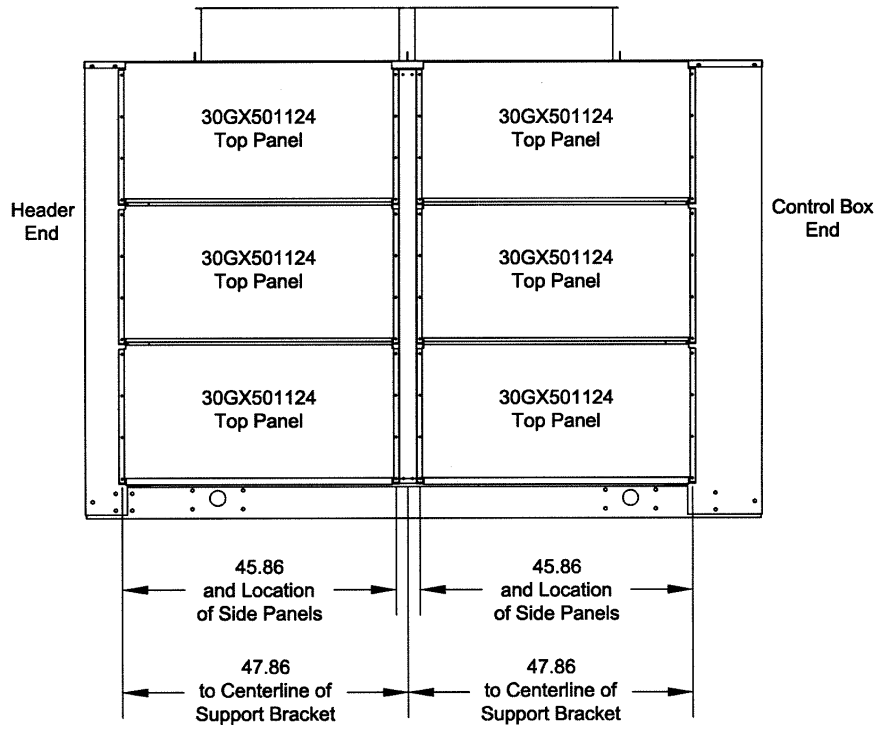

**Fig. 3 — End View
- Join 3 side panels to the corner posts on the control/power box end of the unit using the screws supplied in the accessory package. See Fig. 3 and 4 and unit assembly (Fig. 5A-5L). The insulated sides of the panels should face inward. Repeat this procedure for the header end of the unit.